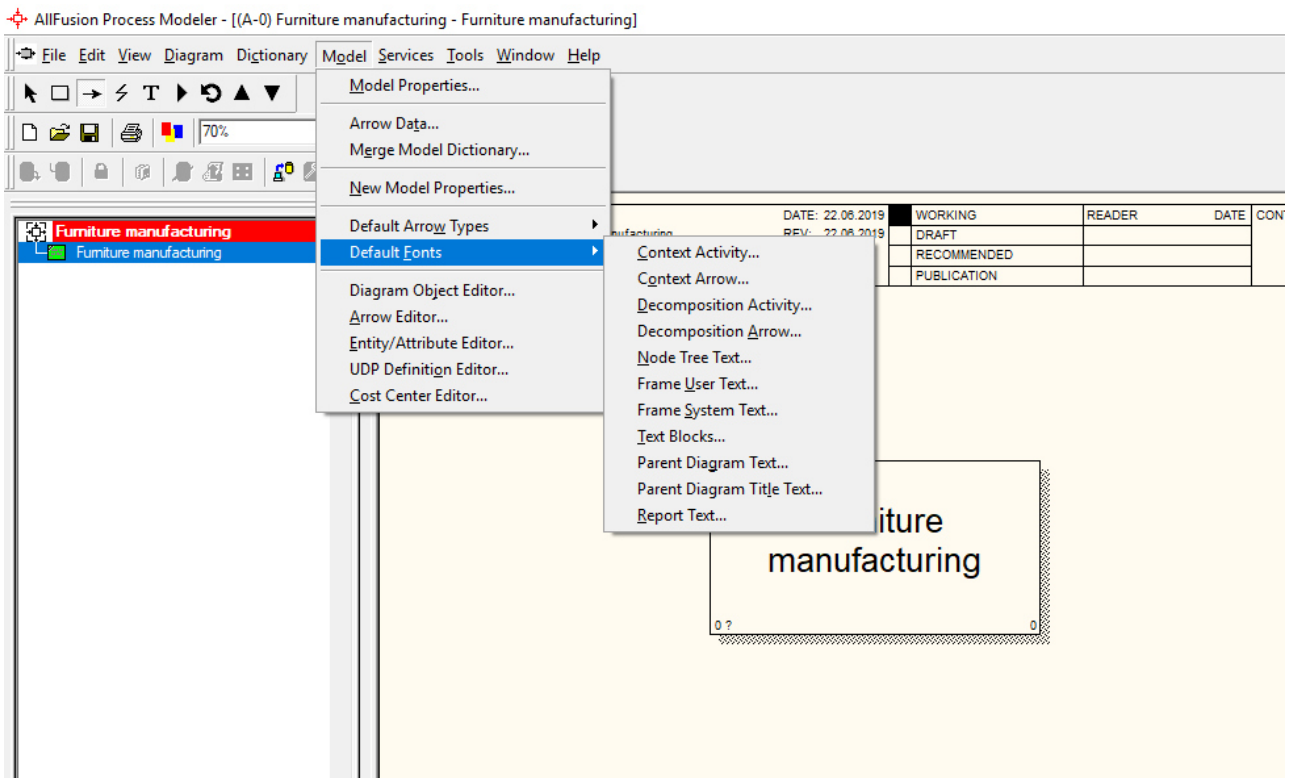

Fig. 1.14. The *Model - Default Fonts* dialog box
5. Choose **Model - Default Fonts** menu to make the text of the arrow clear (fig 1.14).
AllFusion Process Modeler 7.0 allows setting a font by default for the objects of a particular type (for example, arrows) in diagrams and reports. After choosing the **Model - Default Fonts** menu, a dropdown menu appears where each item serves for setting the fonts for a particular object type (fig. 1.14):